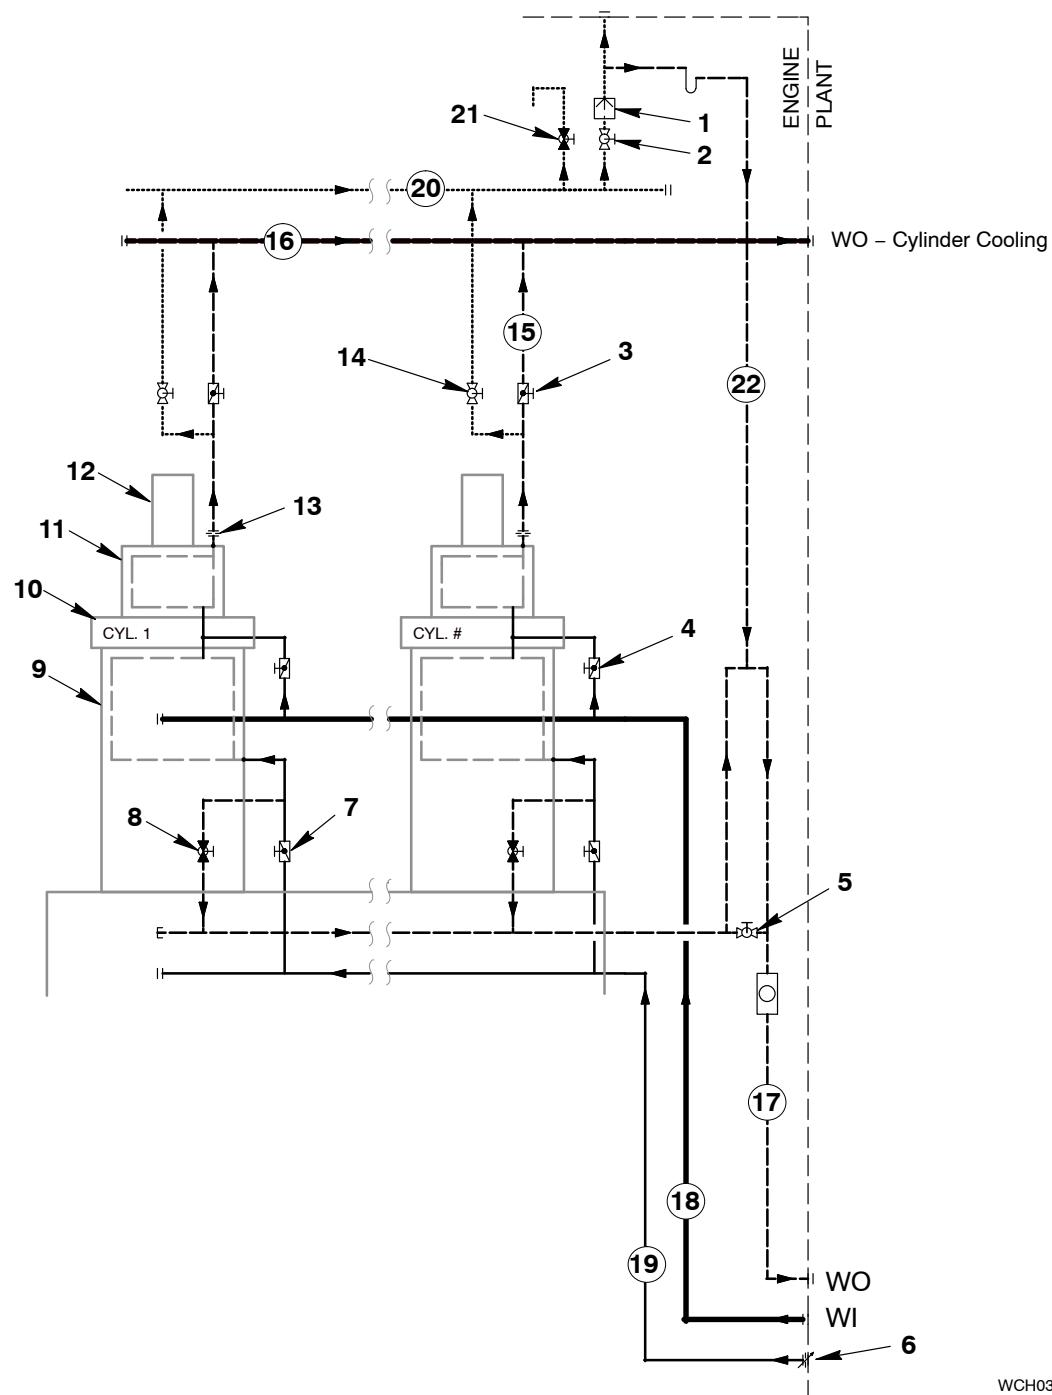

Fig. 1: Lubricating Oil System
The schematic diagram (see Fig.1) shows the cylinder cooling water system in the engine.
The cooling water pump supplies cooling water, through the supply pipe (18, Fig.1) on the exhaust side, to the cylinders. The cooling water flows through the cylinder liner (9), water guide jacket (10), cylinder cover (11) and exhaust valve cage (12). The vent pipe (20) is connected to the expansion tank. When the automatic vent unit (1) and ball valve (2) are open, the system continuously releases pressure.
- a) On the related cylinder, close the valves to the cooling water inlet and outlet (i.e. isolate the cylinder from the cooling water system). See Fig. 1.